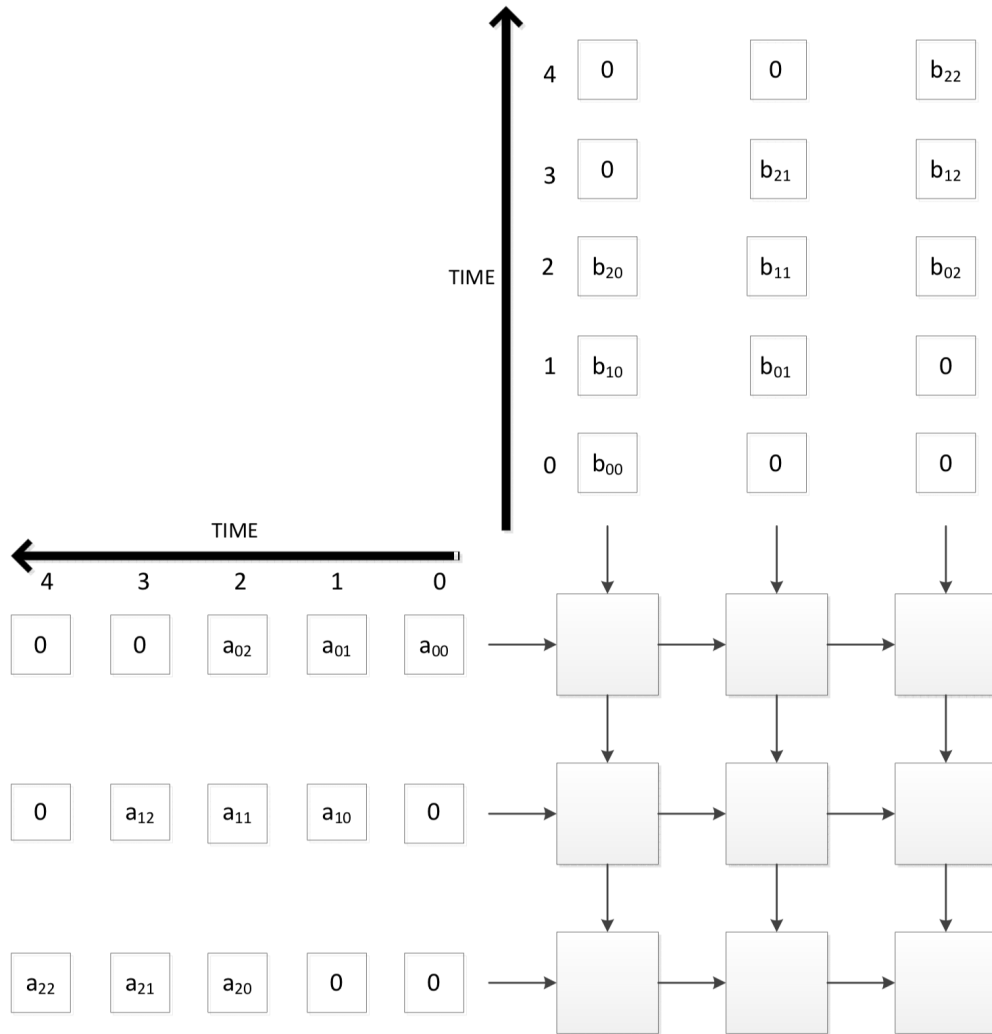

Figure 2: A systolic array
Figure 2 shows a systolic array composed of 9 processing elements. The smaller boxes are the inputs to the systolic array and the larger boxes are the processing elements. You will program this systolic array to perform the following calculation:
- (b) Please fill in all 30 input boxes in Figure 2 so that the systolic array computes the correct matrix multiplication result described on the previous page. (Hint: Use a_{ij} and b_{ij} .)